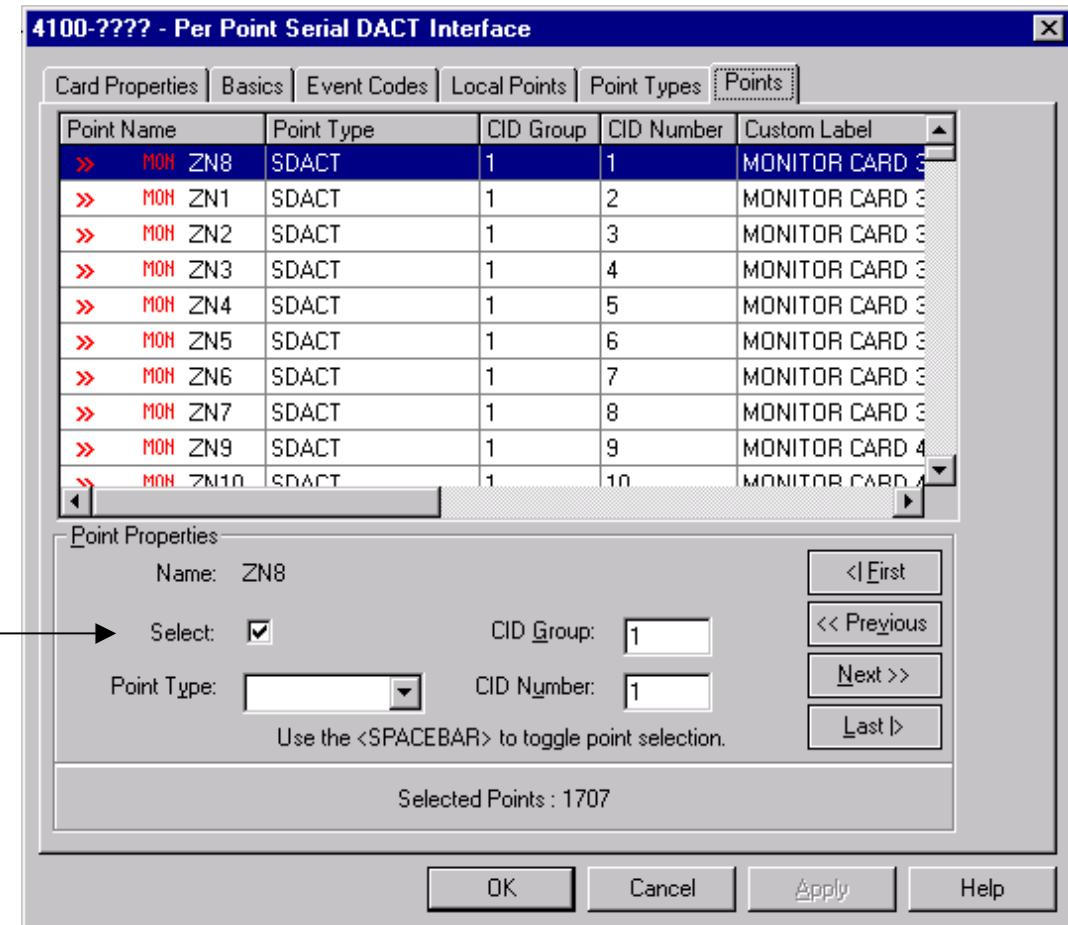

Figure 6-13. Points Tab
The Points tab (shown in Figure 6-13) allows you to do the following:
2. Select the points that should send events to the DACT by checking the Select checkbox. See Figure 6-13 for the location of the Select checkbox.